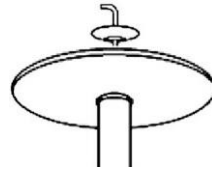

Figure 1.
ASSEMBLY INSTRUCTIONS Figure 1 APPENDIX
Carefully turn the unit upside down and secure with the L shaped locking screw as shown in Figure 1.
2. Insert the pedestal tube into the base plate. Carefully turn the unit upside down and secure with the L shaped locking screw as shown in Figure 1. Return to an upright position.